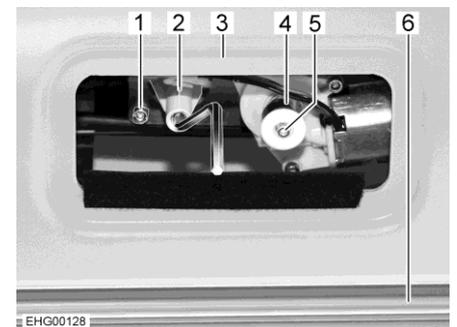

Fig. 49 Access to the motor
- Remove removable panel above the windscreen panelling (Fig. 49,3). The motor (Fig. 49,1) is accessible.
- Remove plastic sleeve (Fig. 49,4).
- Press and hold white securing button (Fig. 49,5).
- Position crank (Fig. 49,2) on crank socket.
- Move Roman shade (Fig. 49,6) upwards or downwards with the crank.
- If both holding bars have moved out of the visible range: pull securing button (Fig. 49,5) out again.